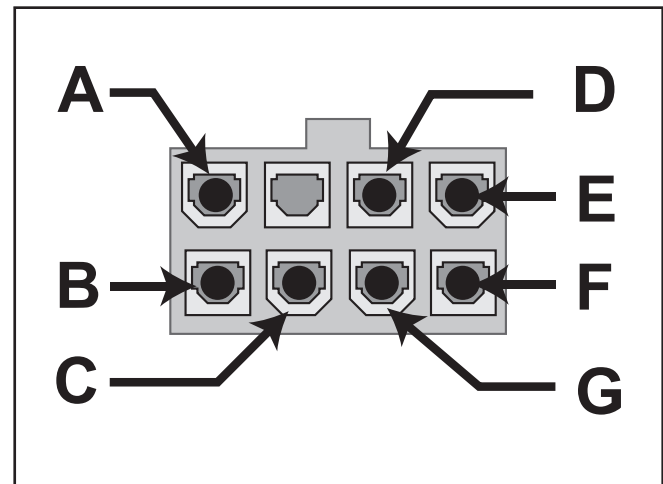

Figure 8
- b) No continuity: Remove the connector from the module (Figure 8). Using a multimeter check the electrical circuits for the conditions listed in the table below.